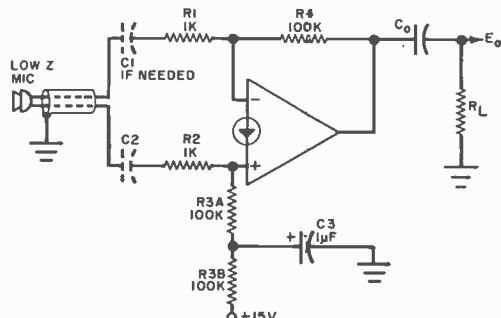

Fig. 6. Inverting amplifier using CDA.
**Differential Amplifier.** Using both inputs results in a differential amplifier (Fig. 6), known for its ability to reject noise such as hum, pickup, etc. As shown, the circuit is suited for a balanced line, low-impedance source such as a microphone. Input capacitors may be eliminated in this circuit if there is no dc voltage across the input terminals, which is true in the case of the microphone. Two-conductor shielded cable, grounded as shown, should be used to minimize noise